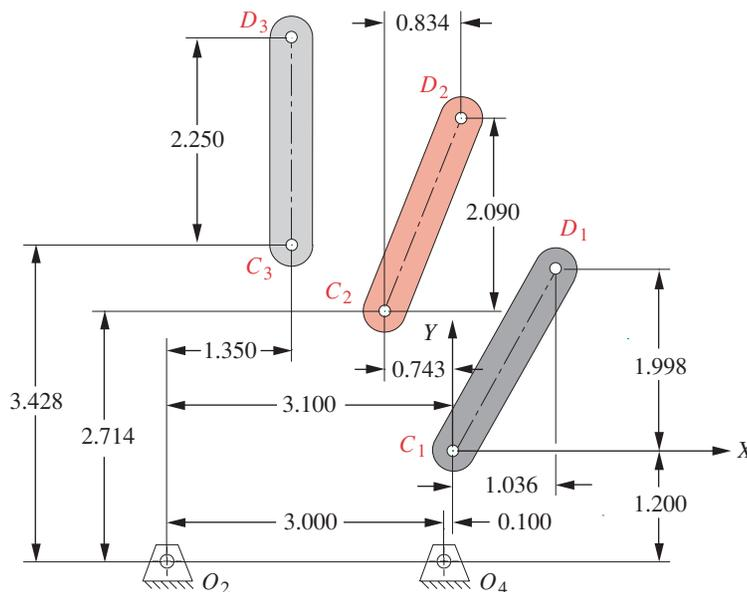

FIGURE P3-17
- 3-59 Design a fourbar mechanism to move the link shown in Figure P3-17 from position 1 to position 2. Ignore the third position and the fixed pivots O_2 and O_4 shown. Build a model and add a driver dyad to limit its motion to the range of positions designed, making it a sixbar.
- 3-60 Design a fourbar mechanism to move the link shown in Figure P3-17 from position 2 to position 3. Ignore the first position and the fixed pivots O_2 and O_4 shown. Build a model and add a driver dyad to limit its motion to the range of positions designed, making it a sixbar.
- 3-61 Design a fourbar mechanism to give the three positions shown in Figure P3-17. Ignore the fixed pivots O_2 and O_4 shown. Build a model and add a driver dyad to limit its motion to the range of positions designed, making it a sixbar.
- 3-62 Design a fourbar mechanism to give the three positions shown in Figure P3-17 using the fixed pivots O_2 and O_4 shown. (See Example 3-7, p. 113.) Build a model and add a driver dyad to limit its motion to the range of positions designed, making it a sixbar.